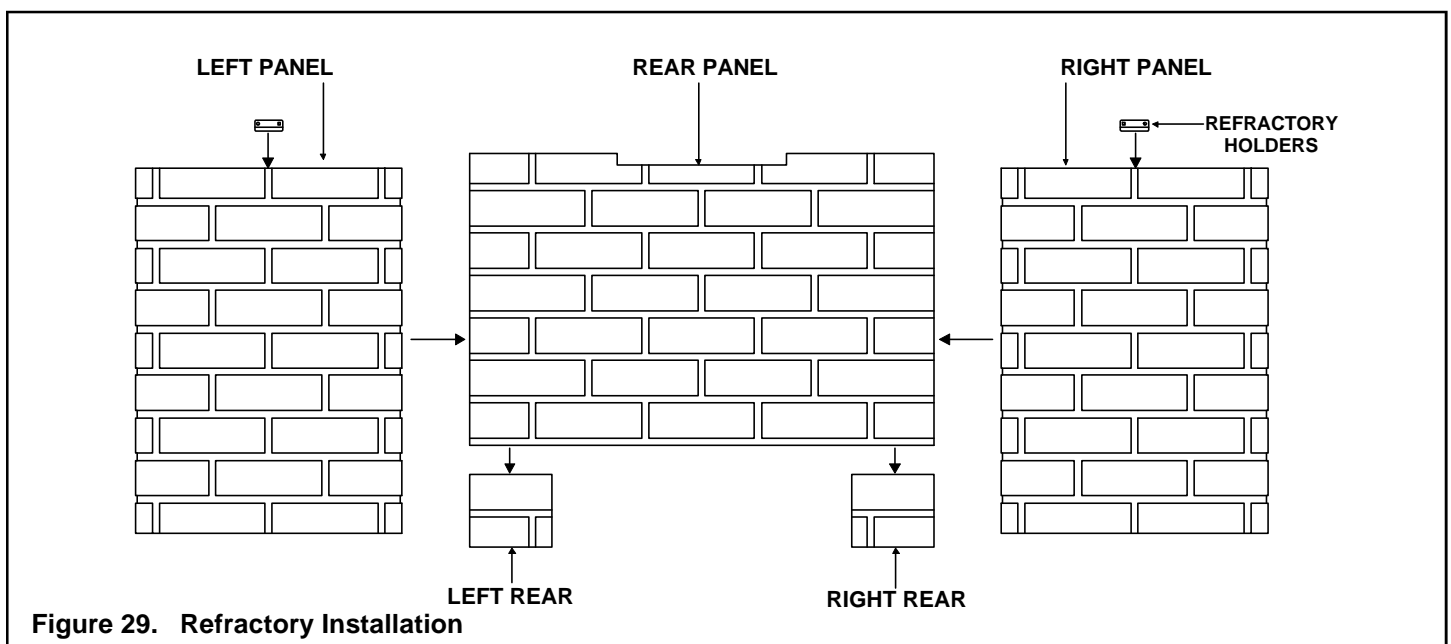

Figure 29. Refractory Installation
2. Position left and right rear refractory pieces against the back wall of the fireplace (see Figure 29).